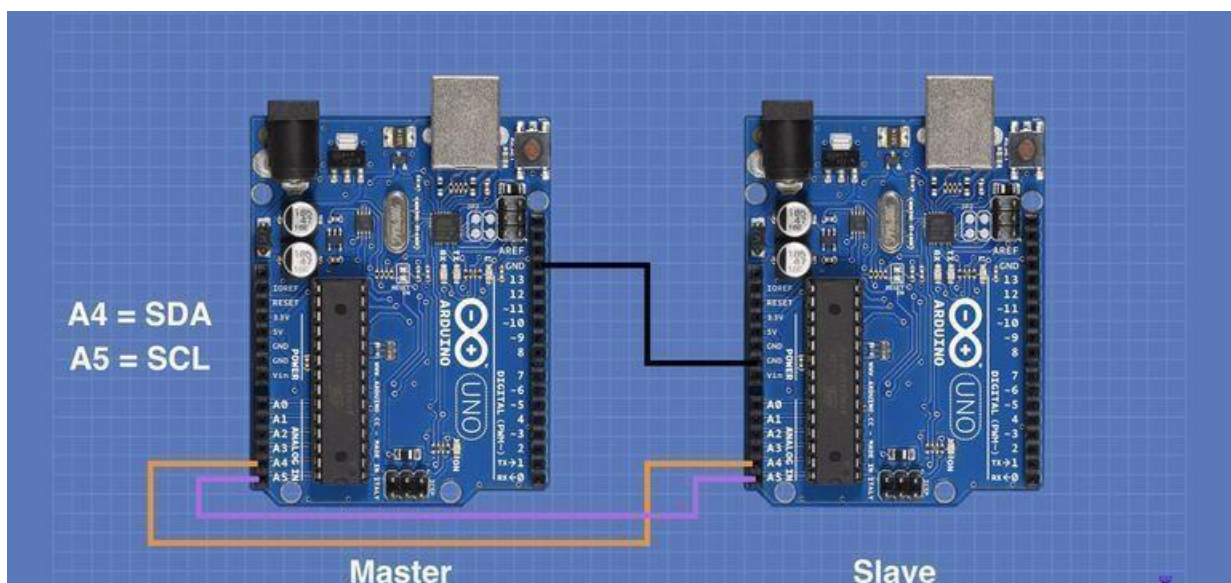

Figure 13: I2c connections
Figure 13 show you how to connect 2 devices to use I2C communication, in this case we set one of them as master and other as slave.
1. Do the schematic in figure 13. (make sure to make the GND common).
1. Do the same schematic in figure 13 (last part).